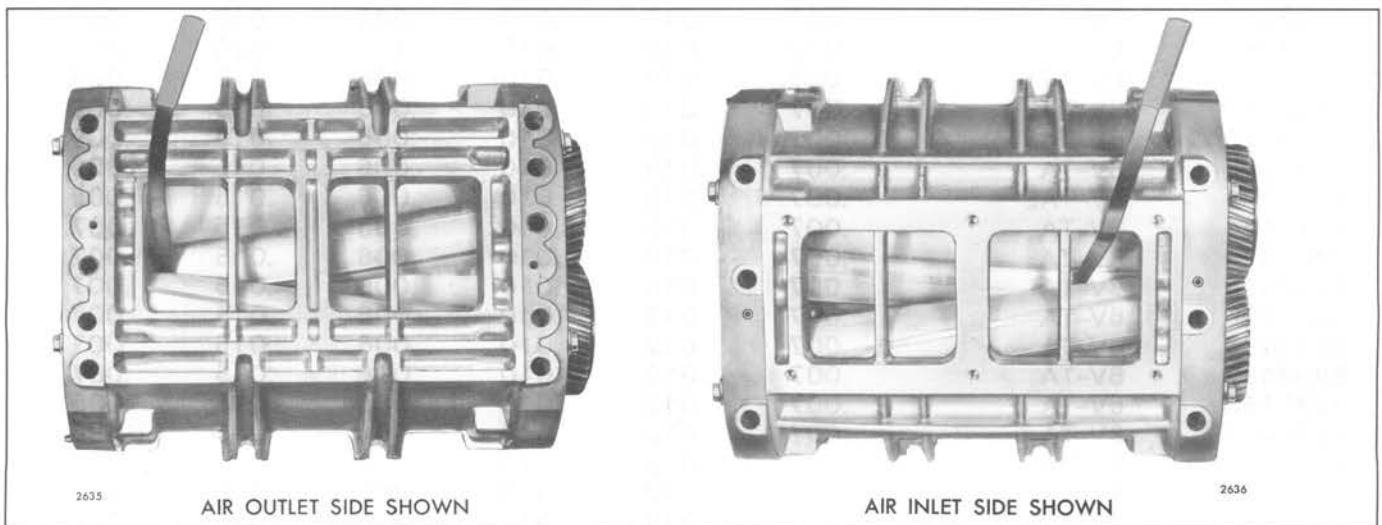

Fig. 22 – Measuring "CC" and "C" Clearance Between Blower Rotor Lobes
- The clearance between the rotor lobes may be checked with 1/2" wide feeler gages in the manner shown in Fig. 22. When measuring clearances of more than .005", laminated feeler gages that are made up of .002", .003" or .005" feeler stock are more practical and suitable than a single feeler gage. A specially designed feeler gage set J 1698-02 for the blower clearance operation is available. Clearances should be measured from both the inlet and outlet sides of the blower.
- Refer to Figs. 22 and 23 and time the rotors to the specified clearance between the *trailing* edge of the right-hand helix rotor and the *leading* edge of the left-hand helix rotor ("CC" clearance) measured from both the inlet and outlet sides. Then, check the clearance between the *leading* edge of the right-hand helix rotor and the *trailing* edge of the left-hand helix rotor ("C" clearance) for the minimum clearance. Rotor-to-rotor measurements should be taken 1" from each end and at the center of the blower.